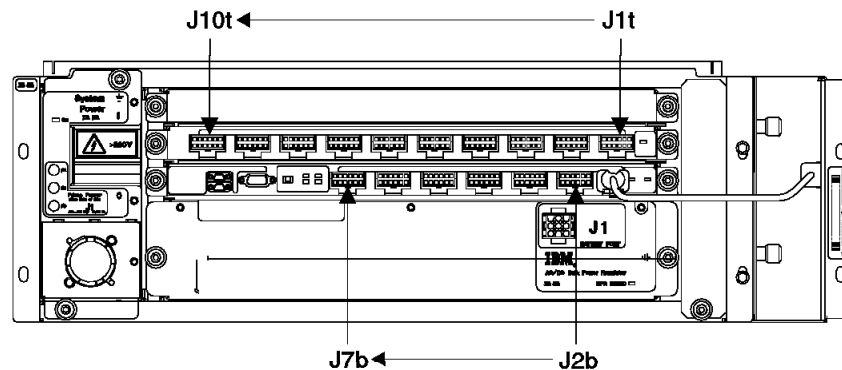

Figure 111. 2105 Primary Power Supply Connectors (S007380I)
4. Determine where the drawer power cable, from the failing SSA DASD drawer fan-and-power-supply, connects to a primary power supply. Also determine where the other drawer power cable from this drawer connects to the same primary power supply. Use the cabling information in Figure 111 for primary power supply connector names and locations.